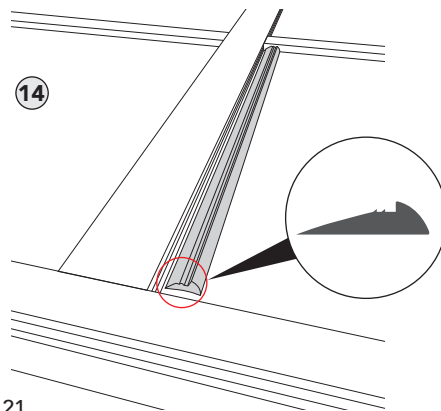

Fig 21
- ⑭ Lay the Long Rubber Gasket (I) onto the assembled awning. Note the curved design (Reference Fig. 21) end of the Rubber Gasket; this curved portion will be exposed when complete.
- ⑮ With a Plastic Scraper, gently but firmly tuck the Rubber Gasket in between the Polycarbonate Sheet and Rear/Center Cross and Front Gutter Bars. Cut off any excess of the Rubber Gasket with scissors.
- ⑯ Continue with the Short Rubber Gaskets (J) in the same manner until all Polycarbonate Sheets are framed and secured in place with the Rubber Gaskets.